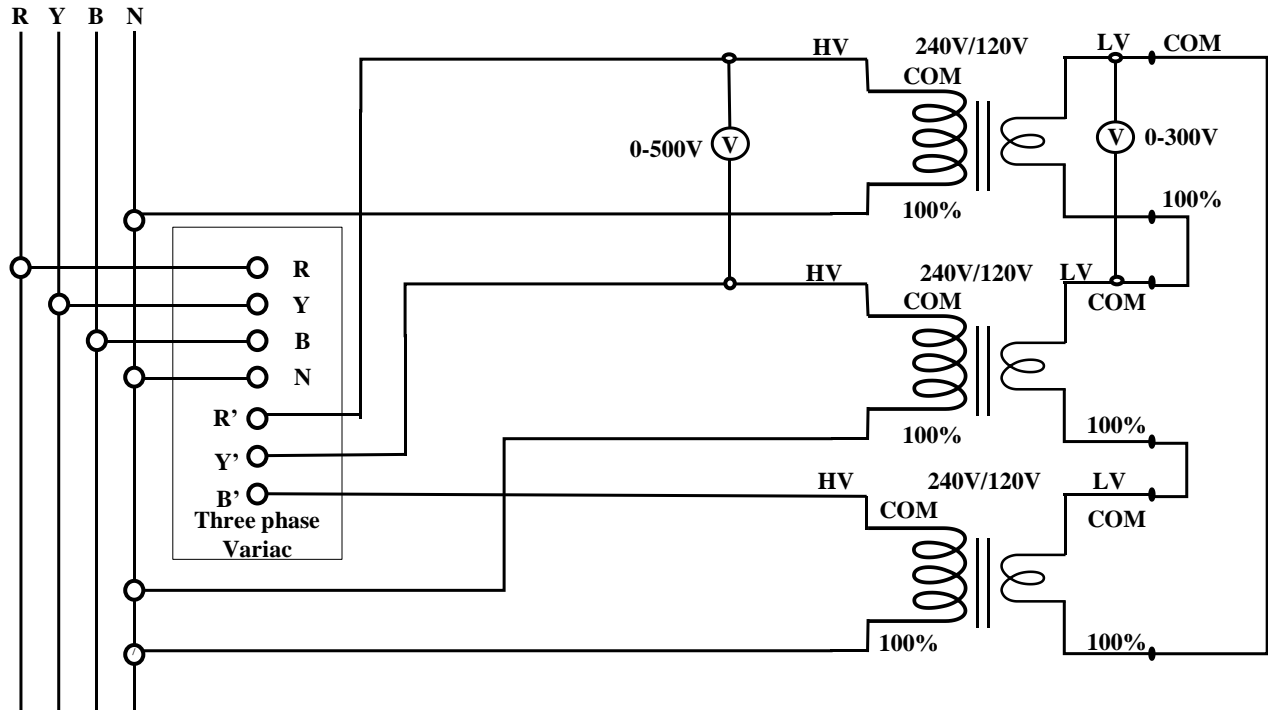

Fig 7: Star-delta configuration using three single phase transformers Lab set-up.
1. Make the connections as per the circuit diagram given in Fig. 7.